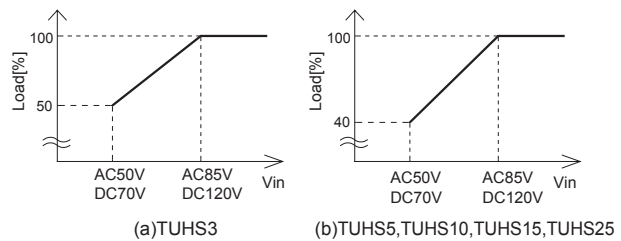

Fig.4.1 Input voltage derating
■In case of less than AC85V or DC120V, it is possible to operate continuously by input voltage derating as shown Fig.4.1.